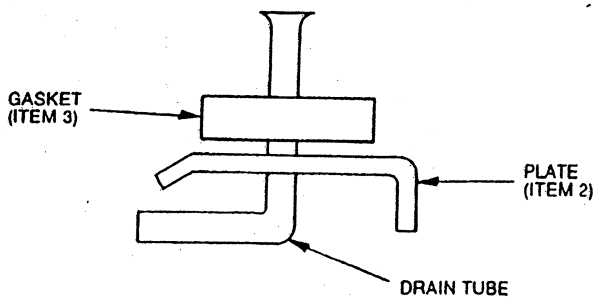

Fig. 5 — Internal Drain Assembly
1. Remove backing from third gasket (item 3) and affix gasket to *outside* of plate (item 2) with large opening in center. See Fig. 5.
2. Push copper drain tube through gasket and plate as shown. See Fig. 5.